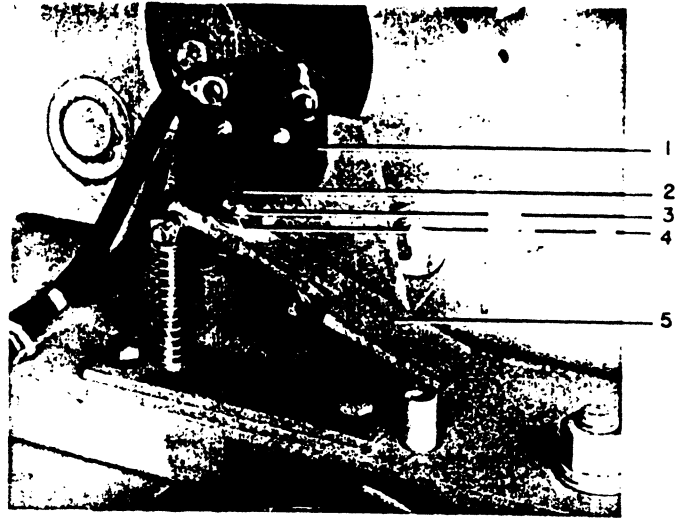

Figure 5. (8021970) Cut-off Switch
The operating sequence for those breakers designed for MI-6 metal-clad equipment is similar to that described above except that a relay mounted elsewhere in the metal-clad unit replaces the control device. Also, a cut-off switch (Figure 5) is used to replace the mechanical trip arrangement of the control device. The cut-off switch energizes an auxiliary relay to de-energize the main relay.
Refer to Figure 5. The lever arm (5) is set at the factory and will require no adjustment.